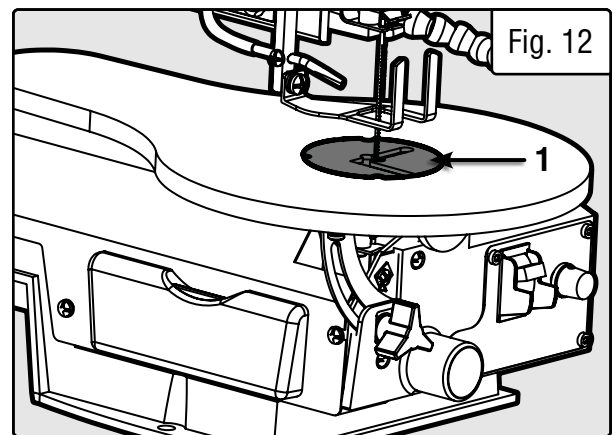

Fig. 12
2. Carefully remove the table insert (Fig. 12 - 1).
5. Place the table insert (Fig. 12 - 1) back into place.